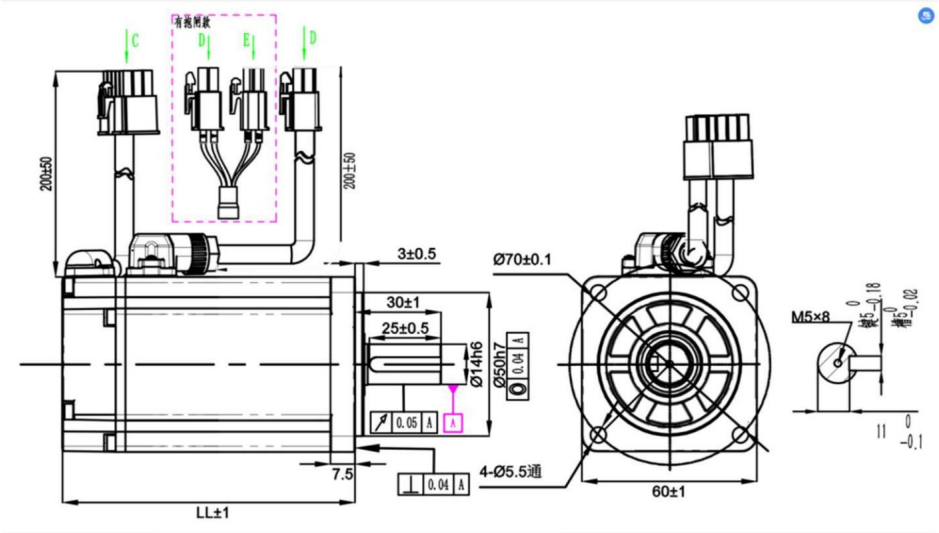

Figure 3.2 60 motor and Table 3-1
• Installation dimensions of 60 flange motor (see Figure 3.2 and Table 3-1)